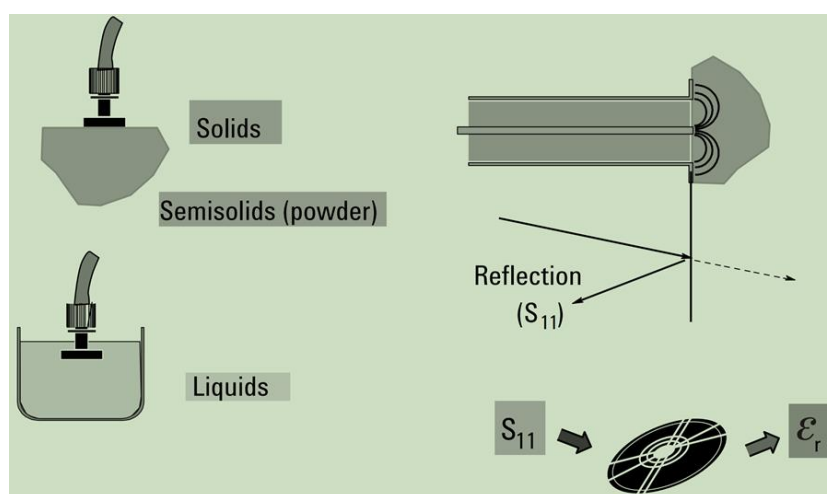

Figure 1. Coaxial probe method
3. To master the principle and method of coaxial probe method for measuring broadband dielectric constant and conductivity of different liquids. As shown in Figure 1, The open-ended coaxial probe is a cut off section of transmission line. The material is measured by immersing the probe into a liquid or touching it to the flat face of a solid (or powder) material. The fields at the probe end “fringe” into the material and change as they come into contact with the material under test. The reflected signal ( $S_{11}$ ) can be measured and related to  $\epsilon_r$ .